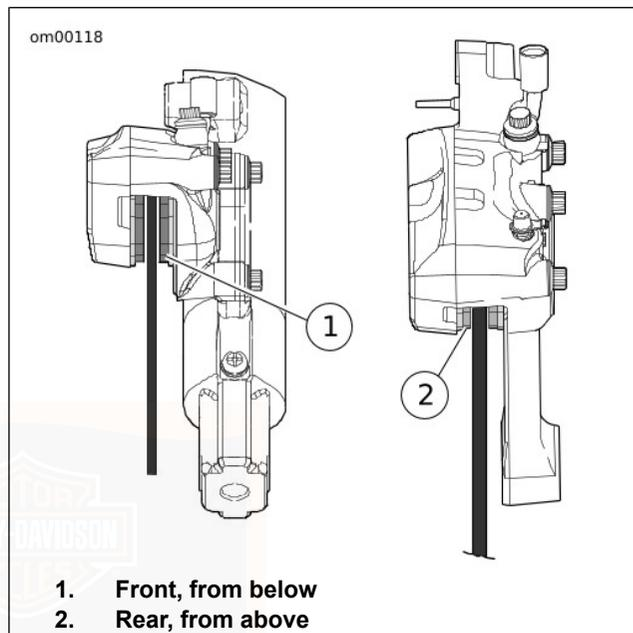

Figure 51. Brake Friction Material
1. See Figure 51. Check the rear brake disc as it spins. The disc should run true in the brake caliper.